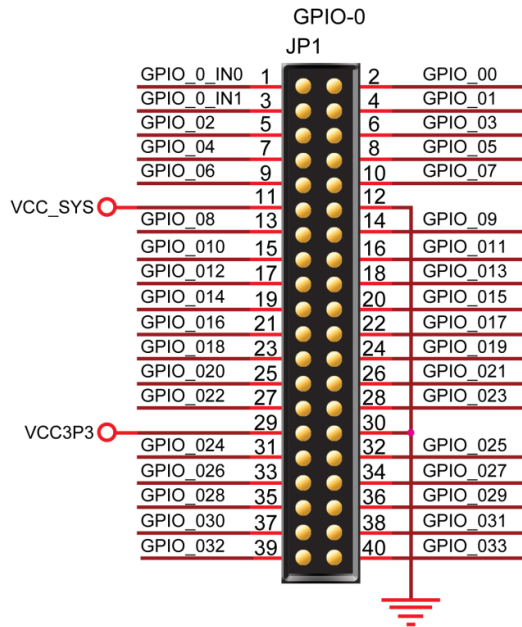

Figure 4: Pin Distribution of the GPIO-0 Expansion Header
2.5. Use Figure 4 for the pin labels for the GPIO-0. Table 2 shows the pins assignments for the GPIO-0.